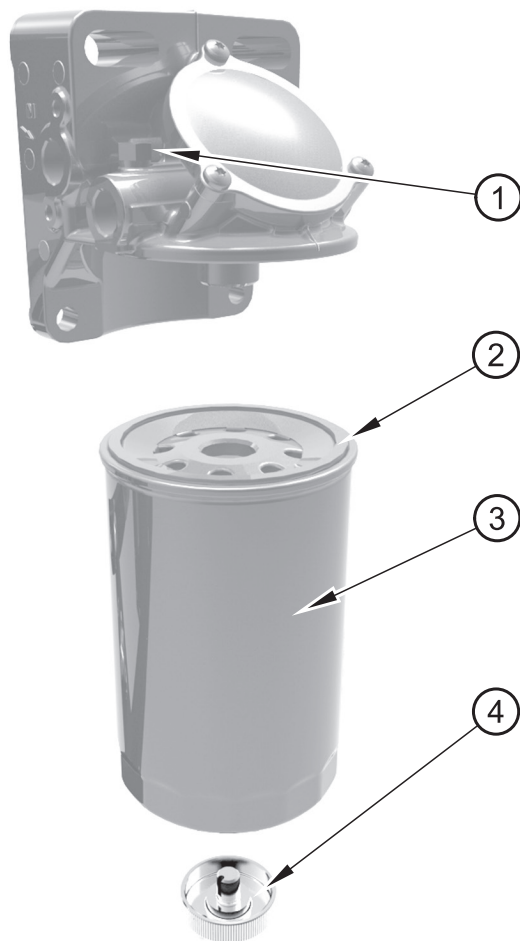

Figure 28
3. Place a soft cloth over the vent screw (figure 28 item 1) on the filter. Open the vent screw in order to relieve the pressure that may be within the fuel system.
4. Open the drain valve (item 4). Allow the fluid to drain into the catching tray. Tighten the drain valve by hand pressure only. Then, tighten the vent screw securely.
5. If necessary, use a chain wrench to remove the canister (item 3).
6. Spin on the new canister until the O'ring seal (item 2) contacts the sealing surface. Then rotate the canister an extra 3/4's of a turn. Do not use a tool in order to install the canister.